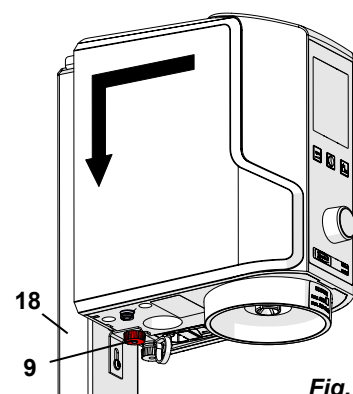

Fig. 3
- ⇒ Secure the device by tightening the knurled nut (9, Fig. 3).